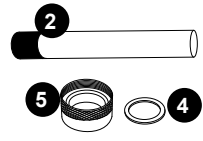

Figure 7
5. Remove the quartz seal compression nut (5) by turning it **counterclockwise**, Figure 5. Use a pair of channel-lock pliers if needed, Figure 6. You will notice that there is a stainless steel compression washer (4) which slides over the quartz tube, save the washer (4) for later use, Figure 7.